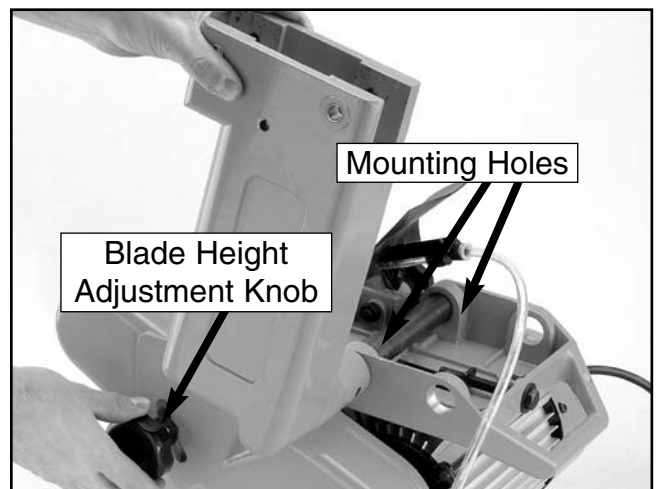

Figure 9. Securing the riser block to the motor assembly using the blade height adjustment knob.
7. Slide the pivot shaft into the mounting holes on the motor assembly and secure with the blade height adjustment knob as shown in **Figure 9**.